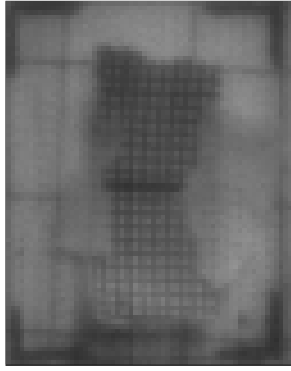

Figure 6: View F: $f_1 = 48\text{mm}$, $f_3 = 48\text{mm}$
9. Set L1 to $f_1 = 48\text{mm}$. Set L3 to $f_3 = 48\text{mm}$. This final view, called ‘View F’ will be the maximum possible zoom of the optical system. Mark corners of view on calibration plate, and repeat measurements as in (8). See Figure 6.
11. Move all settings away from Position X. Return settings to Position X. Ensure that image matches image recorded for Position X in (10) to verify repeatability.